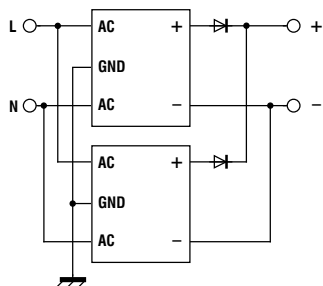

figure 1
**REDUNDANT PARALLEL AND PARALLEL CONNECTION:** the models with the letter **P** in the initials and code are supplied as standard with the output protection diode for redundant parallel and parallel connection. We recommend regulating to the same voltage (tolerance + 10mV) the outputs of all the power supply units, applying the same calibration load, before connecting them in parallel. Use power supply units of the same model. If two power supply units not provided with an internal diode (standard versions) have to be connected in parallel, the connection shown in Figure 1 has to be carried out.